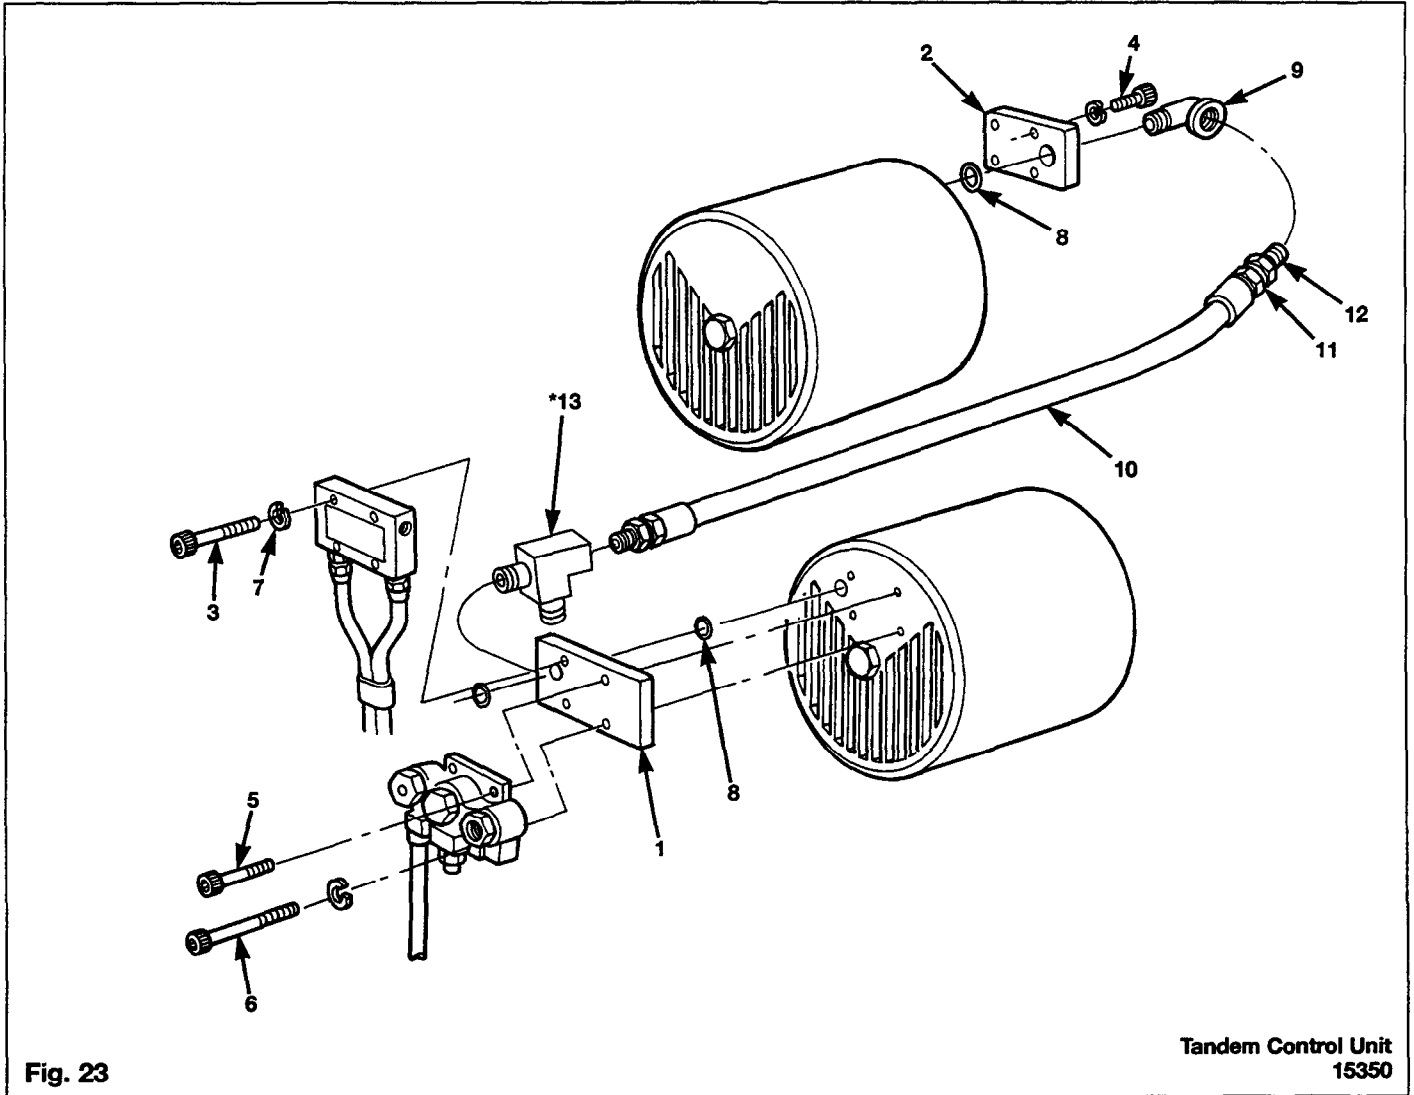

Fig. 23
1. Install master manifold (1) behind EA, ZA or BA control kit, as shown in illustration.
2. Install slave manifold (2) to 2nd unit.
3. Install tandem hose assembly (10) between master (1) and slave (2) manifolds as shown in figure 23.